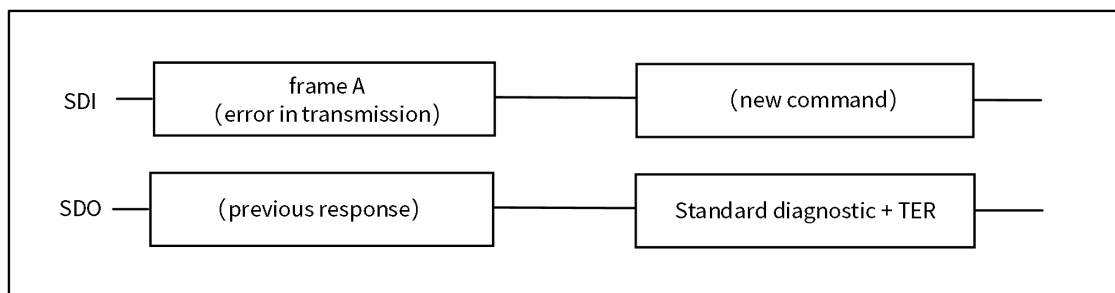

Figure 10.6 NSD56008 response after an error in transmission
- in case an error in transmission happened during the previous frame (for instance, the clock pulses were not multiple of 8 with a minimum of 16 bits), shown in **Figure 10.6**